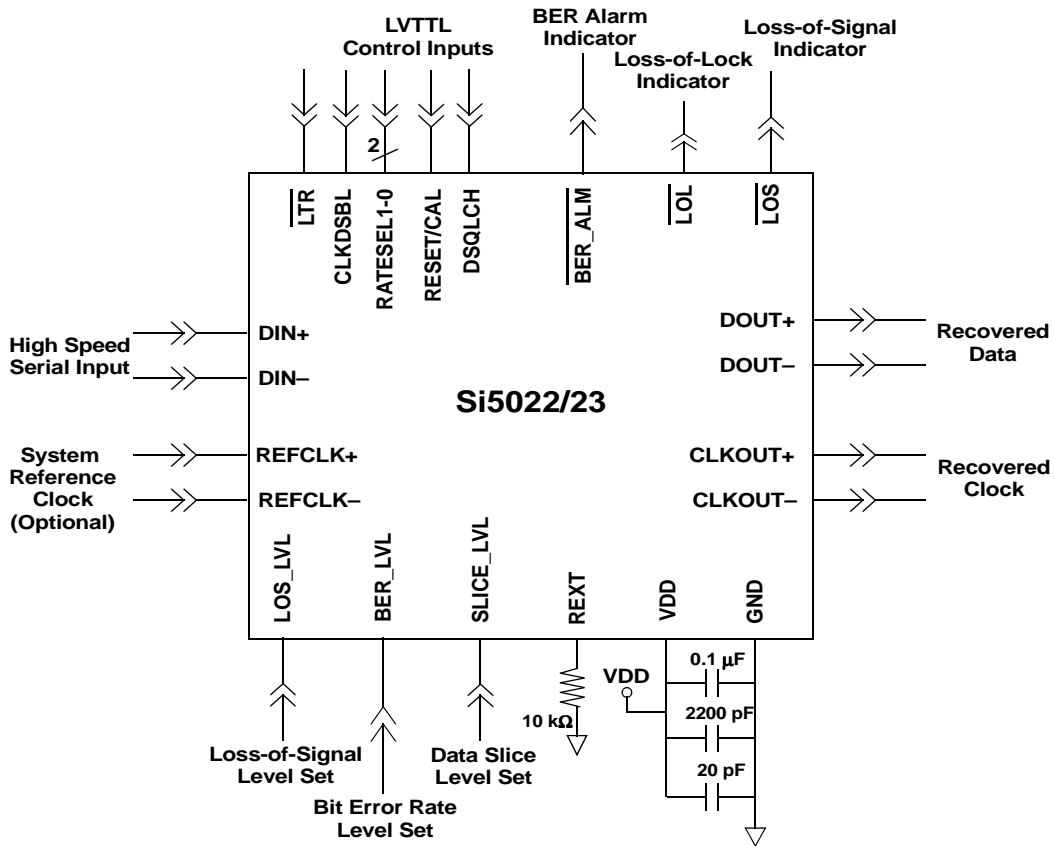

Figure 5. Si5022/23 Typical Application Circuit
2. The Si5022/23 specifications are guaranteed when using the recommended application circuit (including component tolerance) of Figure 5 on page 10.